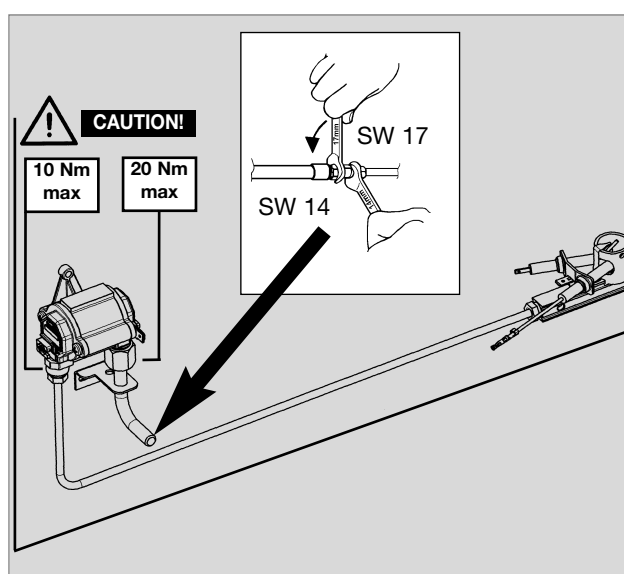

Fig. 42
- The gas connection to the appliance is effected by means of (Ermeto-) olive type fitting L8, DIN 2353-ST, complying with EN 1949 (s. figure 42).